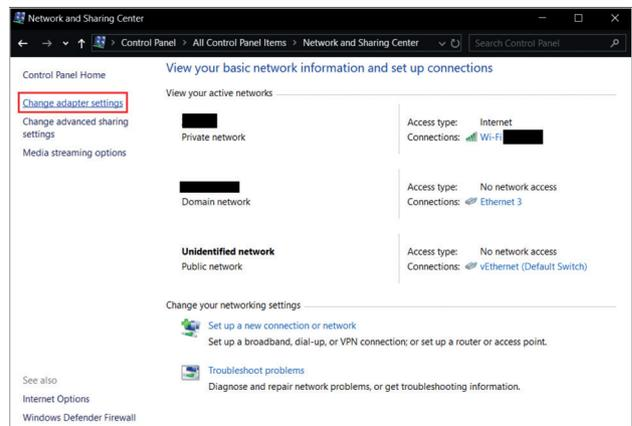

Figure 7. Configuring ethernet settings in **Change adapter settings**.
3. In the dialog that opens, click **Change adapter settings**. A new window opens, listing all available network adapters. Select the adapter related to the physical ethernet plug on your PC, usually referred to as "ethernet" (Figure 7).